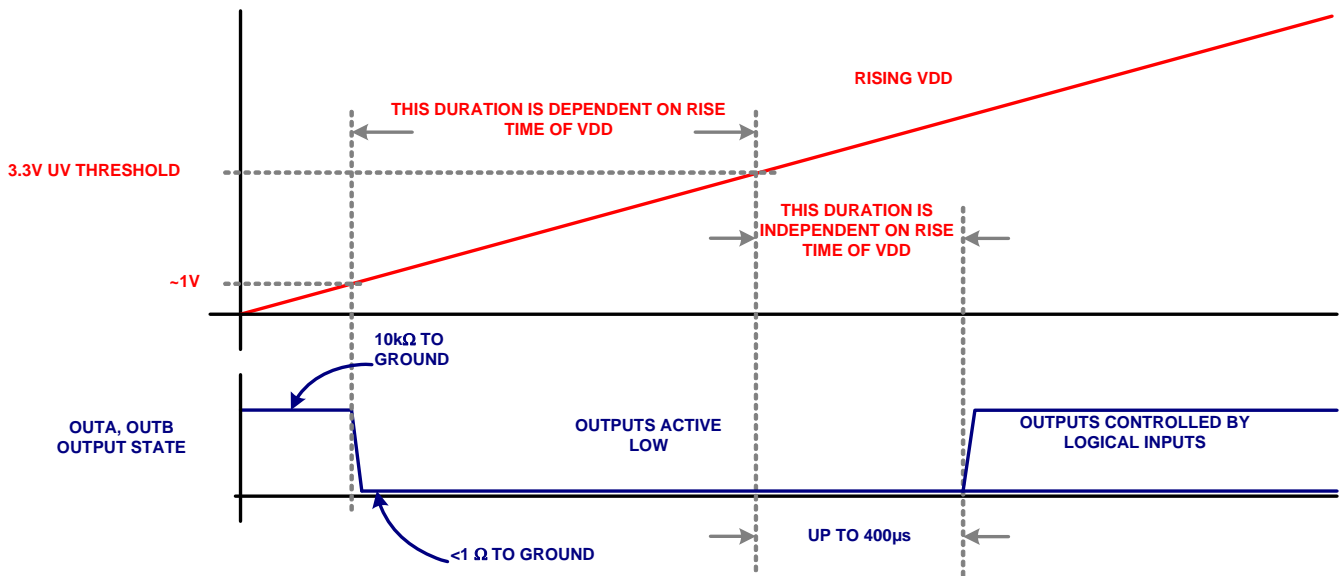

FIGURE 9. START-UP SEQUENCE
- A 400 μs delay further inhibits the release of the output state when the UV positive going threshold is crossed. See Figure 9
ground, help to keep the gate voltage close to ground. When $\sim 1V < V_{DD} < UV$, both outputs are driven low while ignoring the logic inputs. This low state has the same current sinking capacity as during normal operation. This insures that the driven FETs are held off even if there is a switching voltage on the drains that can inject charge into the gates via the Miller capacitance. When $V_{DD} > UVLO$, and after a 400μs delay, the outputs now respond to the logic inputs. See Figure 9 for complete details.